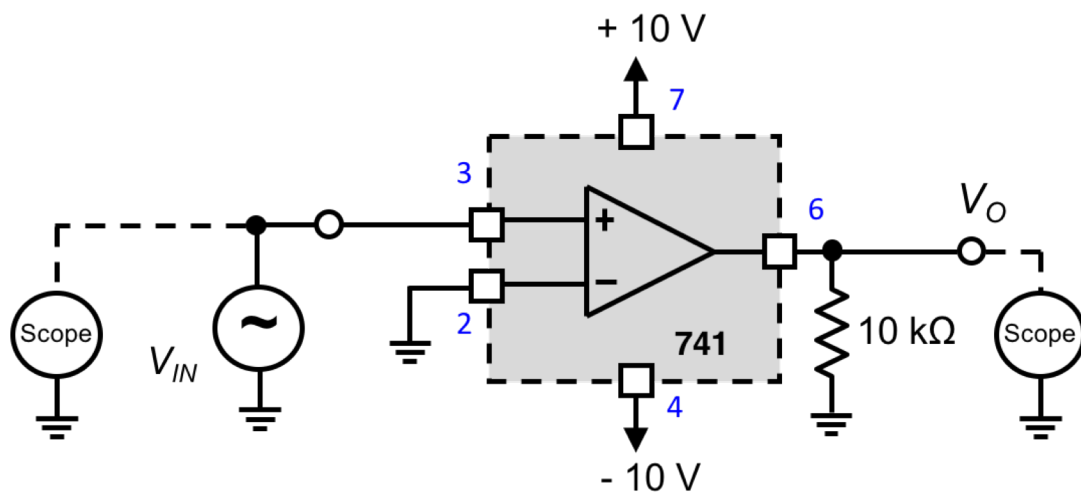

Fig. 3: Comparator
1) **Comparator** (Fig. 3). Apply a 1 kHz sine-wave of about 1 V_{pp} to the noninverting (+) input with the inverting (-) input grounded. Observe this signal on the oscilloscope through channel A, set the trigger to external and capture the output on channel B. *Does it change if you reduce the input amplitude to 0.1 V? What is the effect of grounding the + input terminal, and connecting the signal to the – input terminal?*